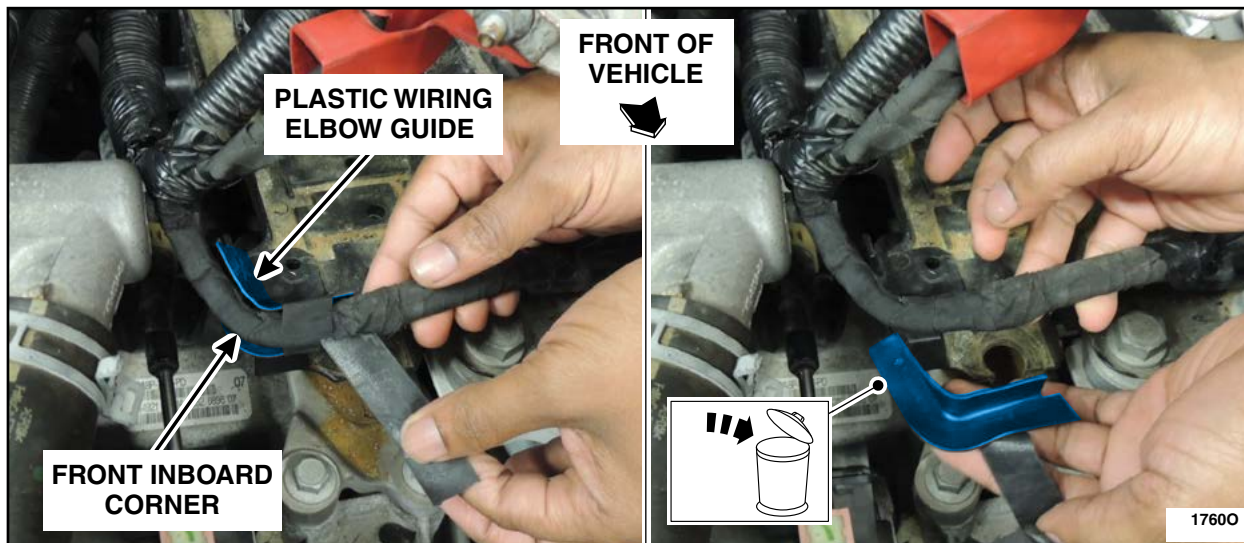

FIGURE 3
4. Unwrap, remove and discard the plastic wiring elbow guide in the battery cable wiring harness located at the front inboard corner of the battery tray. See Figure 3.